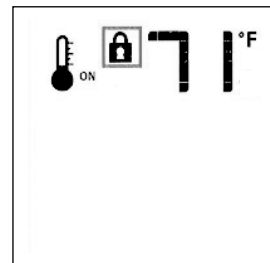

Fig. 15.17. Lock ON.
- To activate the Lock, press the Mode key and UP Key at the same time. Fig. 15.17.